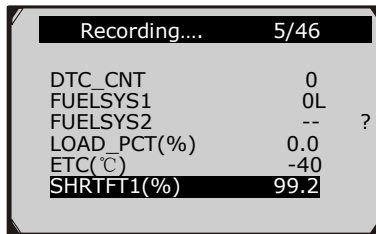

Figure 5.26
5) Wait for DTC to trigger recording or press **OK** to start recording. (Figure 5.26)
- 7) Wait for DTC to trigger recording or press **OK** to start recording. (Figure 5.26)